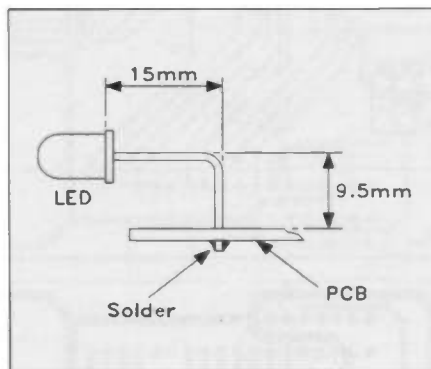

Figure 7. When assembling the LEDs bend leads as shown.
11. The 8 LEDs, noting polarity and lead dimensions. The polarity is indicated by a 'k' marking the cathode position on the PCB legend; the cathode is the shorter of the two leads. See Figure 7 for details of how to mount each LED in the correct position.